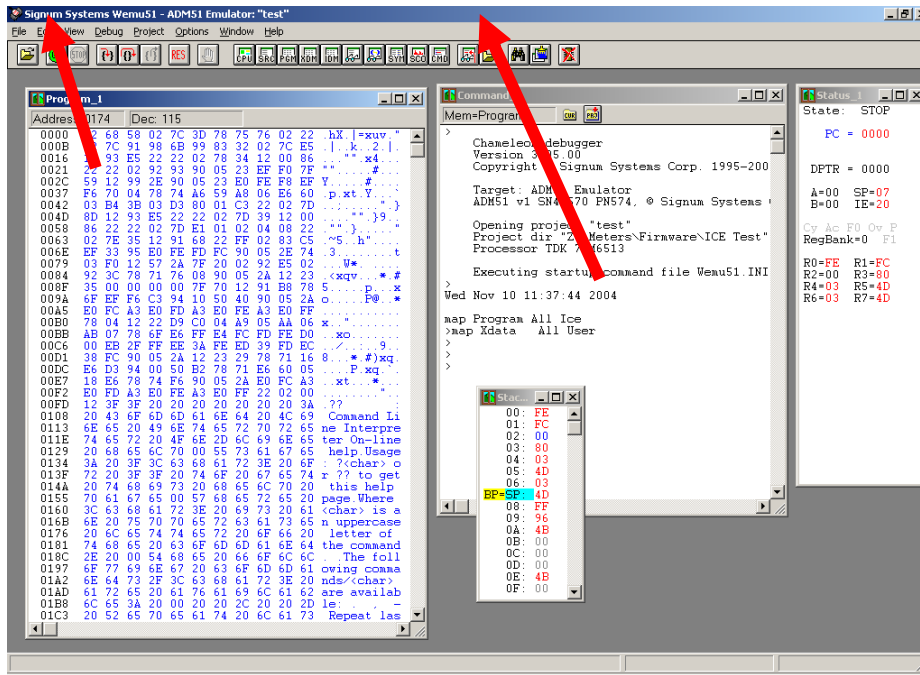
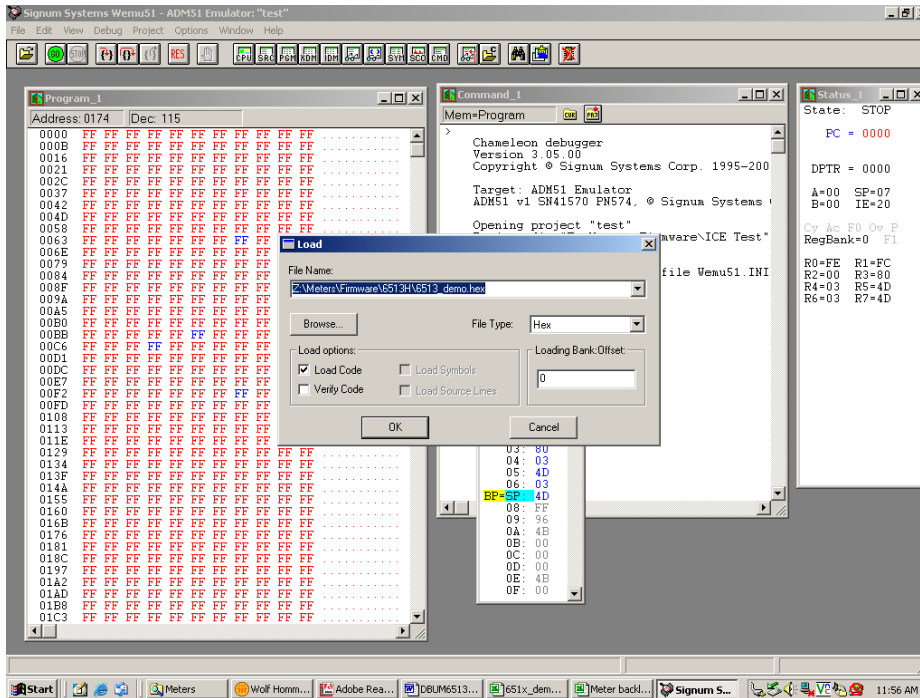

Figure 1-11: Emulator Window Showing Reset and Erase Buttons
Figure 1-12: Emulator Window Showing Erased Flash Memory and File Load Menu
**In-Circuit Emulator:** If firmware exists in the 71M6521 flash memory, this memory has to be erased before loading a new file into memory. Figure 1-11 and Figure 1-12 show the emulator software active. In order to erase the flash memory, the RESET button of the emulator software has to be clicked followed by the ERASE button (Figure 1-11).
Once the flash memory is erased, the new file can be loaded using the commands File followed by Load. The dialog box shown in Figure 1-12 will then appear making it possible to select the file to be loaded by clicking the Browse button. Once the file is selected, pressing the OK button will load the file into the flash memory of the 71M6521 IC.